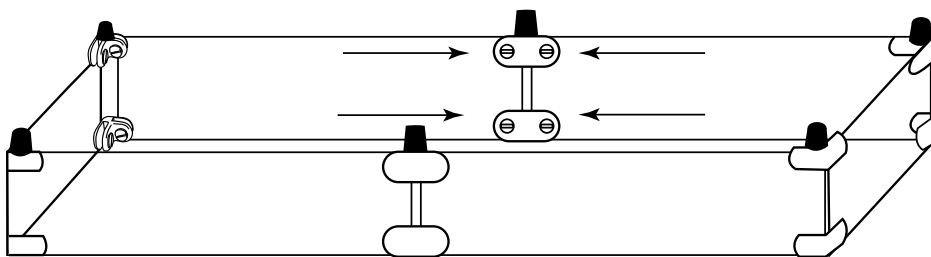

Fig. 9 Assembling straight brackets on long extended windshields.
The straight brackets are used to join together two pieces of glass for the extra length of glass. These brackets come with the GWS-6010, GWS-6810 and GWS-8410 only (See Fig. 9)
NOTE: If you are installing the straight brackets on long extended windshields, install one short panel with two long panels. Then assemble the other short panel with two long panels and slide them together as shown in figure 9. Snug the set-screws into place.
STEP 2: After all eight (8) brackets are secured to the windshield carefully turnover the entire assembly right-side up (black feet at the bottom) and place the windshield over-top of your fire pit centering around the burner it into place (See Fig. 9) Installation is now complete.